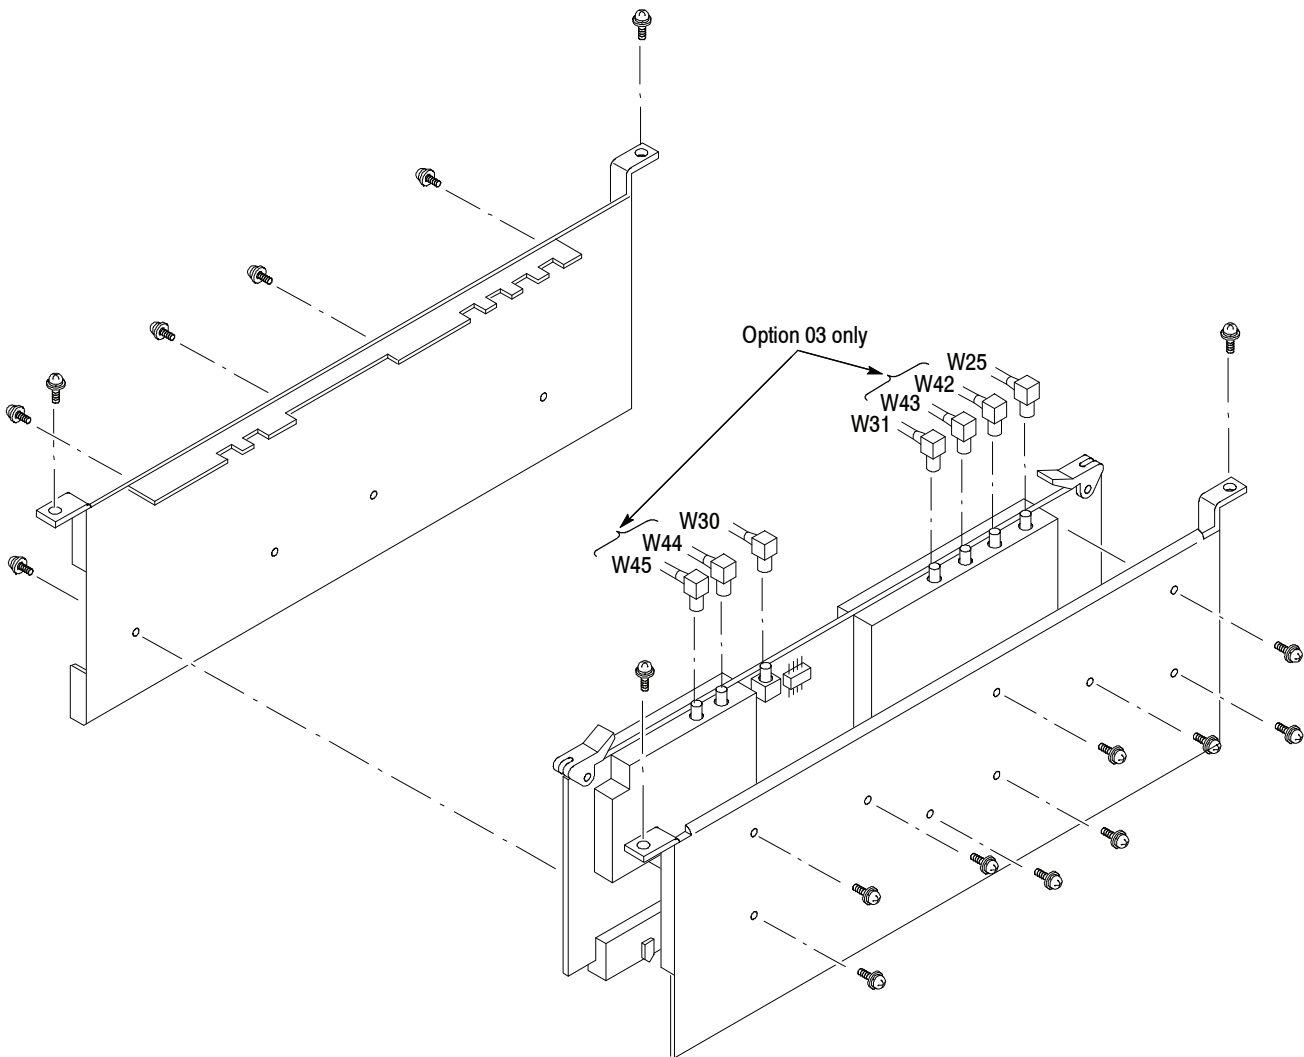

Figure 5-18: A10 A/D board removal
4. *Remove the A10 A/D board:* See Figure 5-18. Also see Figure 5-35 on page 5-73 for the cable interconnection.